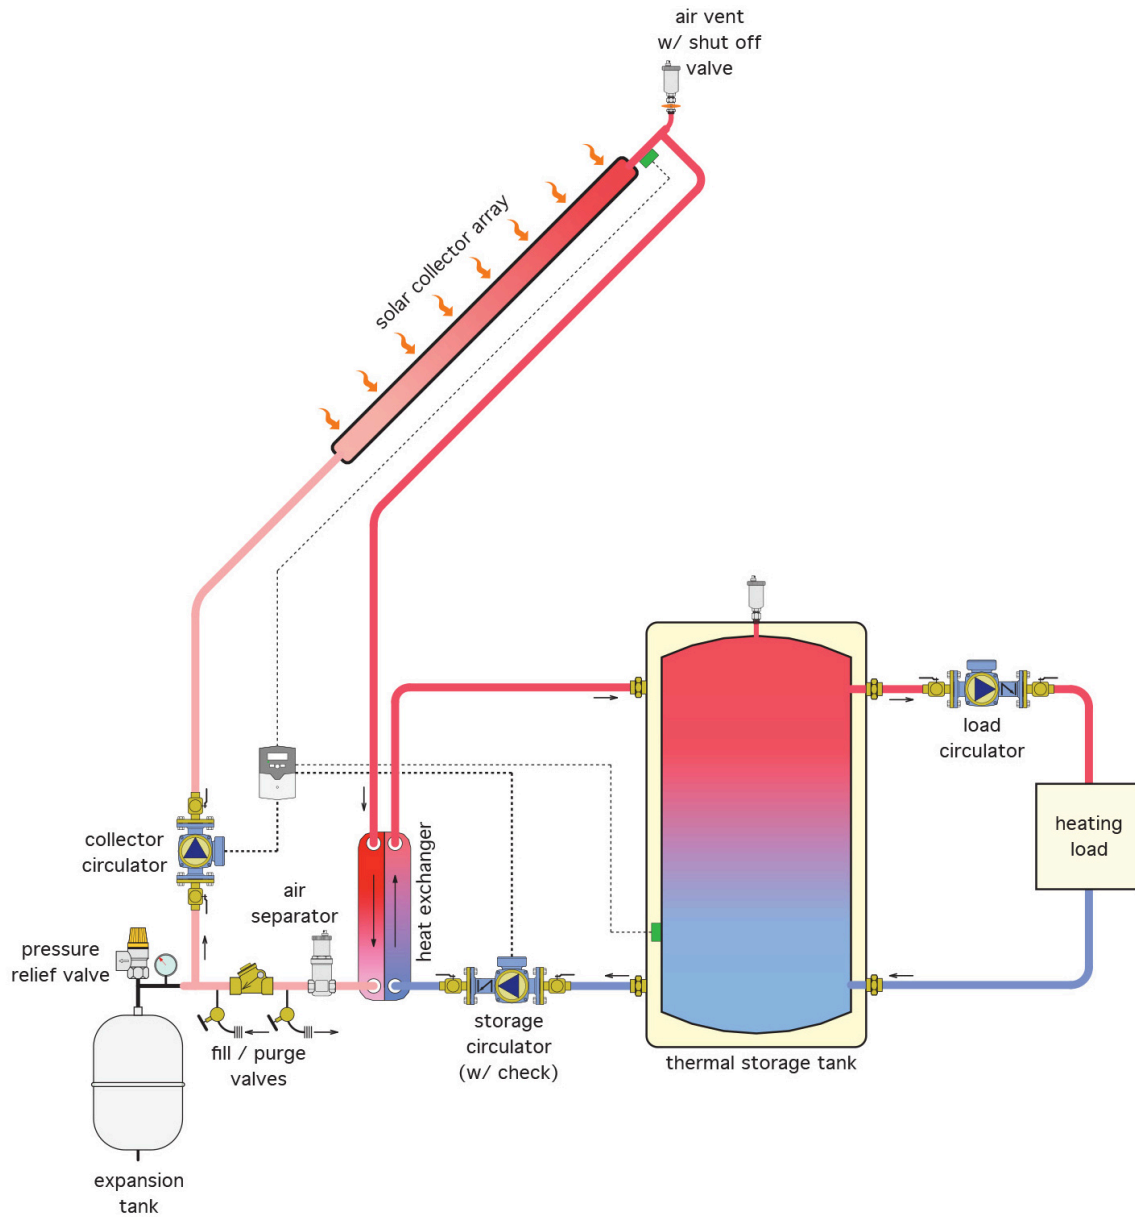

Figure 3 Externally-mounted heat exchanger using antifreeze
- Figure 3 Flat plate collector © Caleffi Hydronic Solutions. Used with permission.
Figure 3 shows a heat exchanger mounted external to the tank, rather than within it. Although it contains antifreeze on the collector side, the heat exchanger would have to be mounted within a heated space to prevent the system water side from freezing.